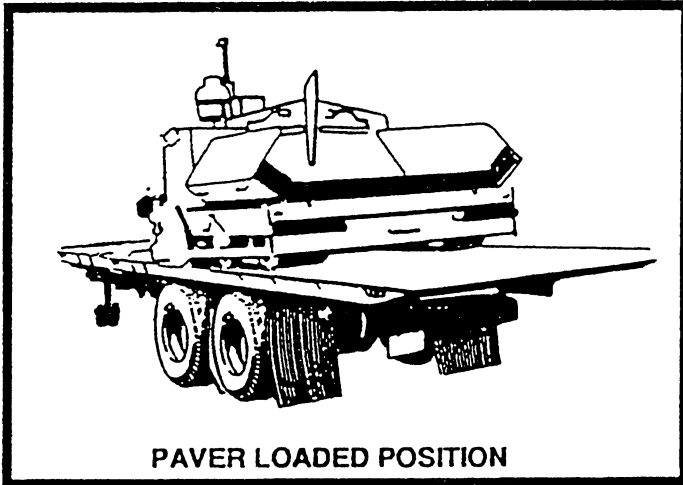

FIGURE 16
1. Position paver on trailer centered from side to side. See figure 16.